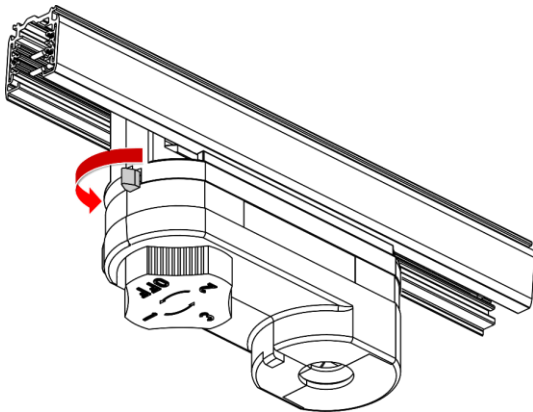

Fig. 17
- 04) Turn the **track lock (02)** counterclockwise to unlock the device (see Fig. 17).